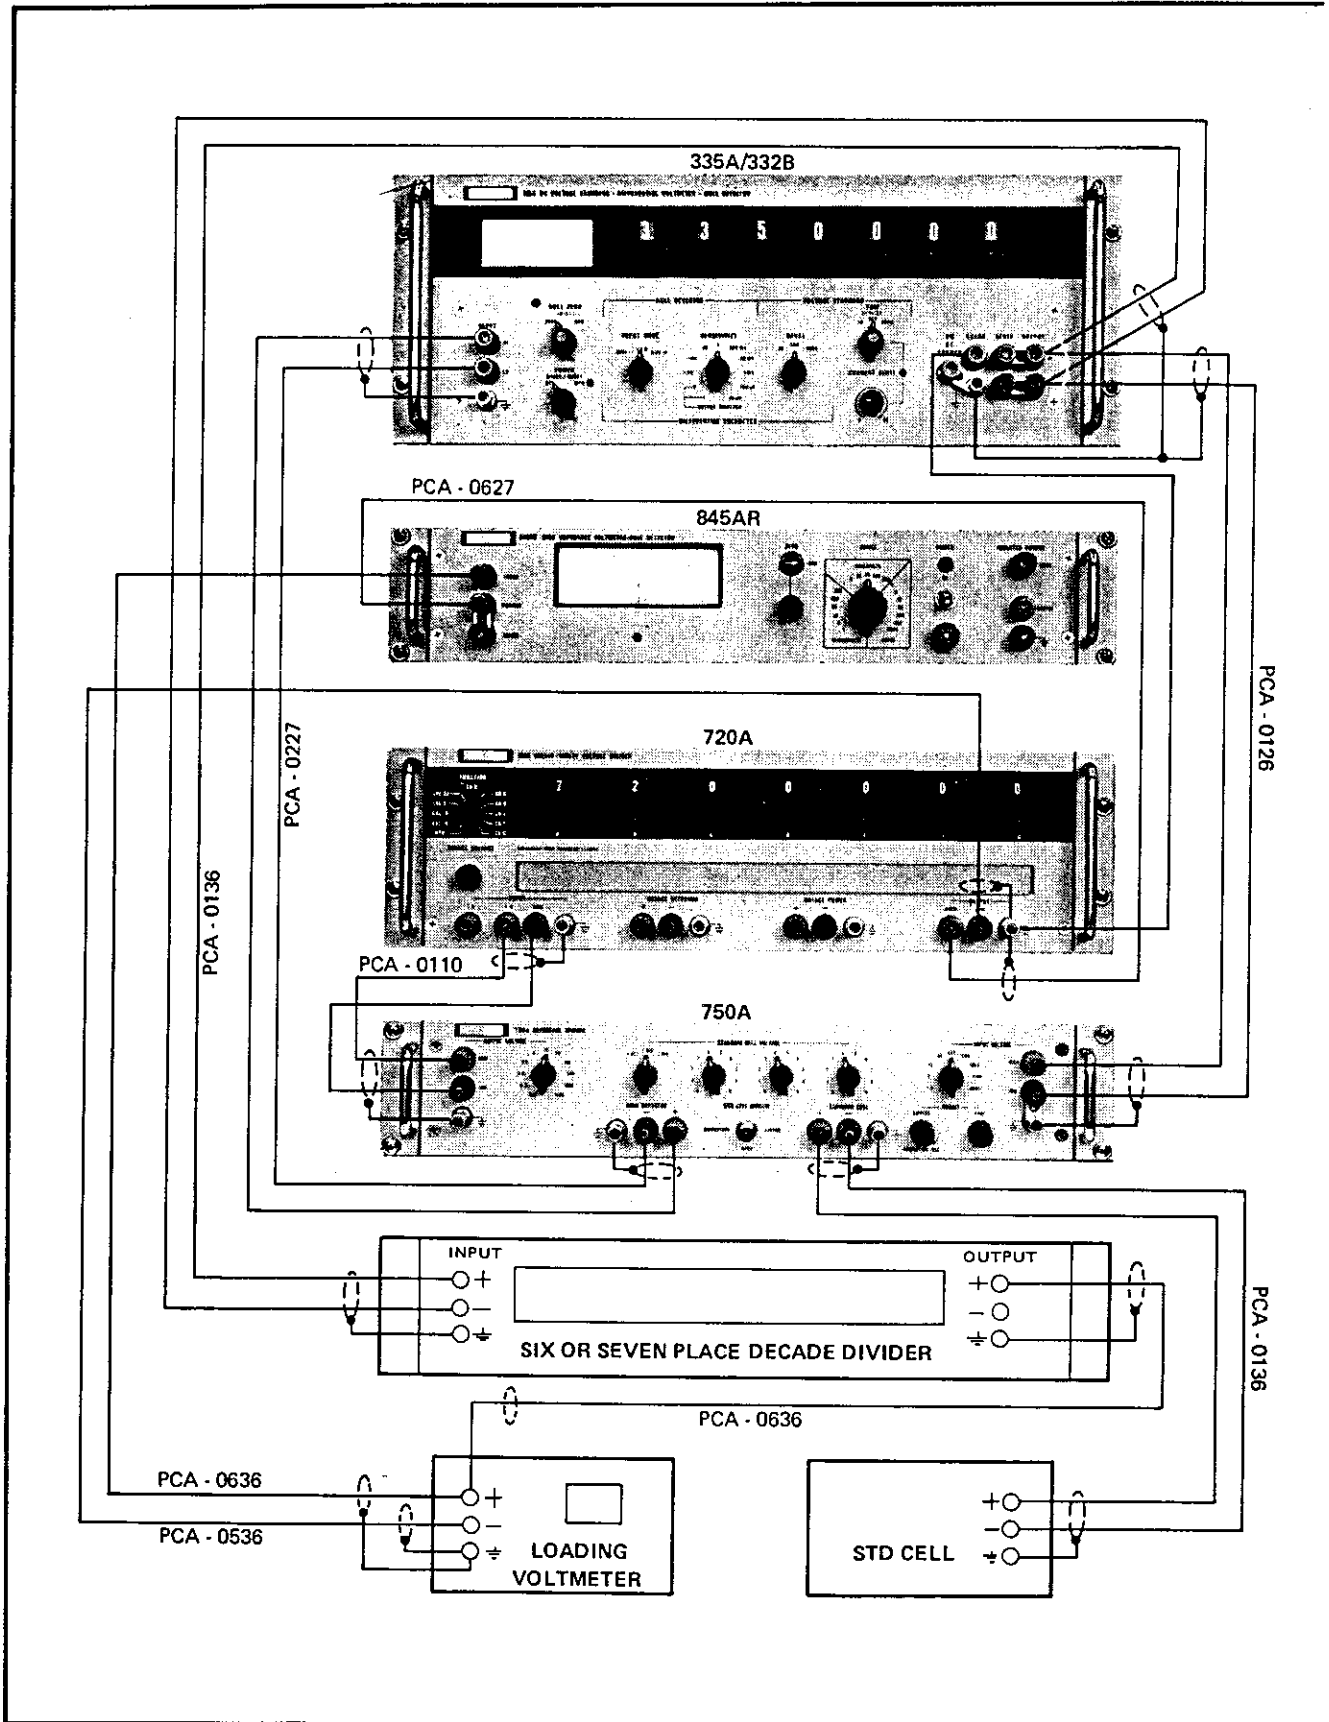

Figure 2-11. CONNECTIONS FOR LOADING VOLTMETER CALIBRATION AT POINTS OTHER THAN 750A OUTPUT SETTINGS, SYSTEM 7105A
- b. Make the equipment connections illustrated in Figure 2-11. If the system has only one null detector, connect this instrument to the Model 750A NULL DETECTOR terminals. If the system has two null detectors, set the Model 845AR ZERO/OPR control to ZERO.